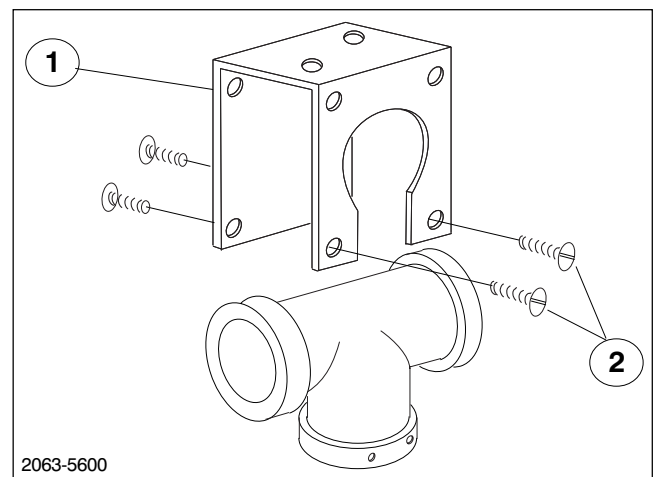

FIG. 4
4. Remove plug from Tee assembled to Pump and Tank; retain Fork. Assemble Tee connected to Pump and Tank to Tee bracket using four (4) #10-16 x 5/8 PPH screws. (See FIG. 4)